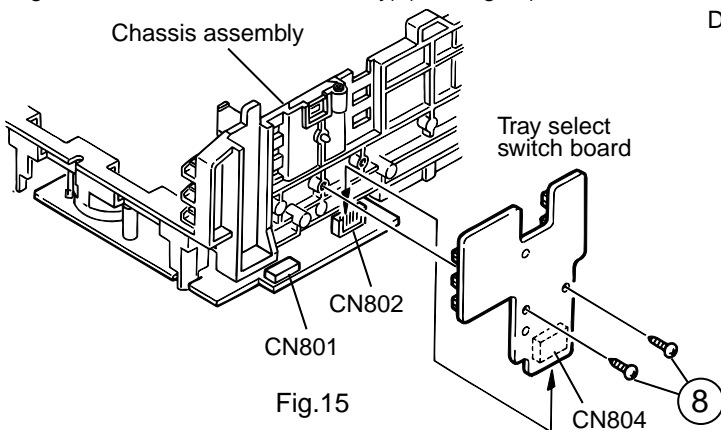

Fig.15
3. Remove the two screws 8 retaining the tray select switch board (See Fig.15).
(See Fig.15~18)**
2. While turning the cam gear L, align the pawl "N" position of the drive unit to the notch position (Fig.15) on the cam gear L.